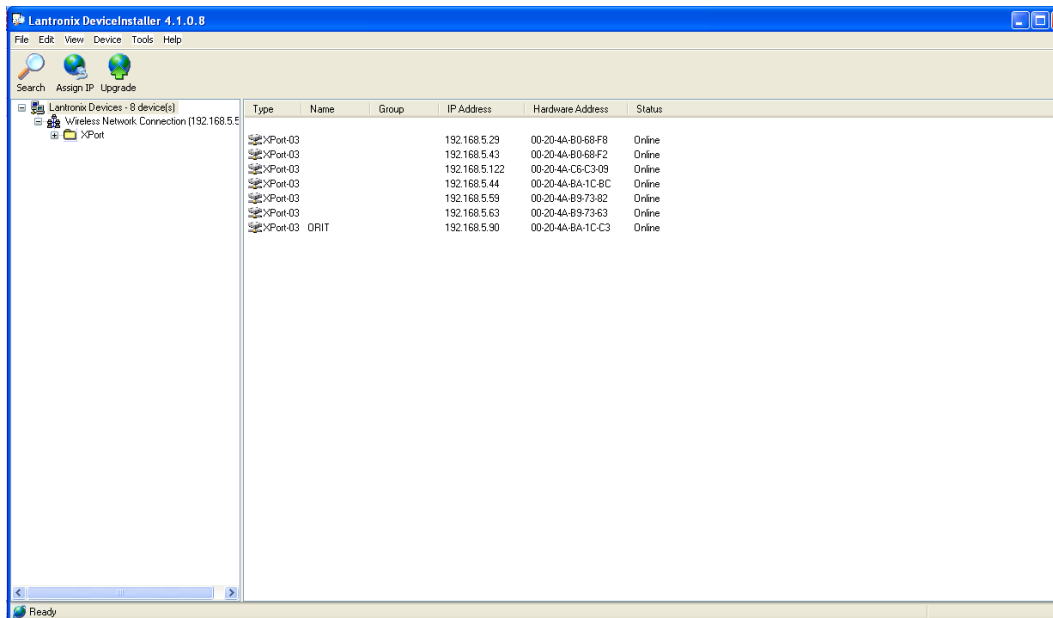

Figure 14: Selecting a TVDR
3. Make sure that the TVDR is powered-on and connected to the same TCP/IP network as the computer LAN. Click **Search** in the device installer. The following window is displayed (Figure 14).